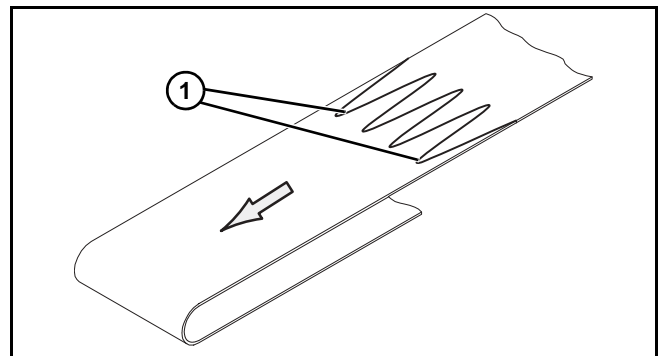

Figure 63
- Orient the conveyor belt so that the splice leading fingers (**Figure 63, item 1**) point in the direction of belt travel, indicated by the label (**Figure 62, item 1**).